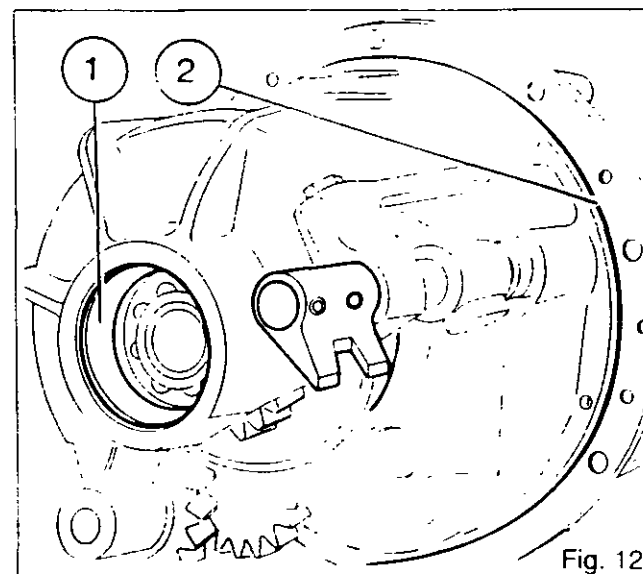

Fig. 12
Check that cup (1) is present in the input gearbox housing and fit a new O-ring (2) to the housing (Fig. 12).